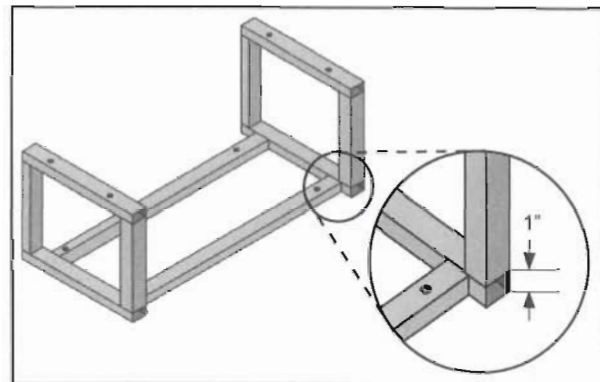

Figure 2
- B. If the horizontal rails are positioned in a flat configuration, 1" tall and 1-1/2" wide, proceed to the Correction section of this Bulletin. See Figure 2.